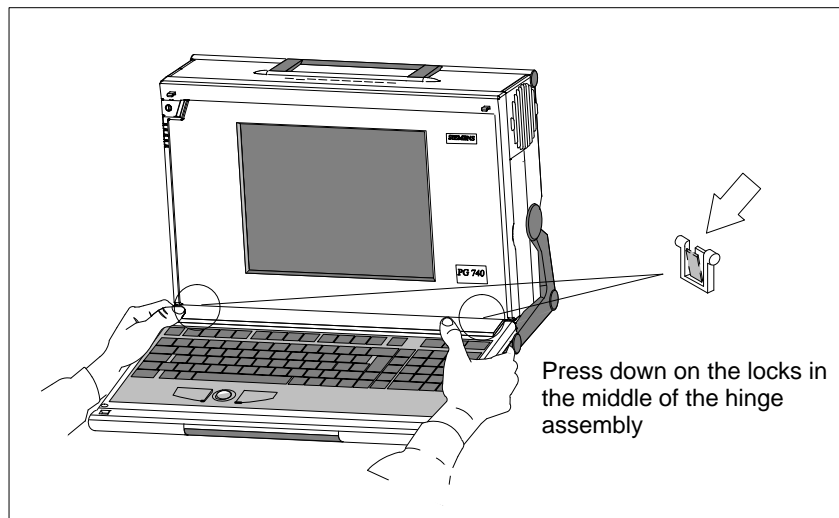

Figure 2-4 Detaching the Keyboard
1. Grip the keyboard hinges in the stand behind the keyboard as shown in Figure 2-4.